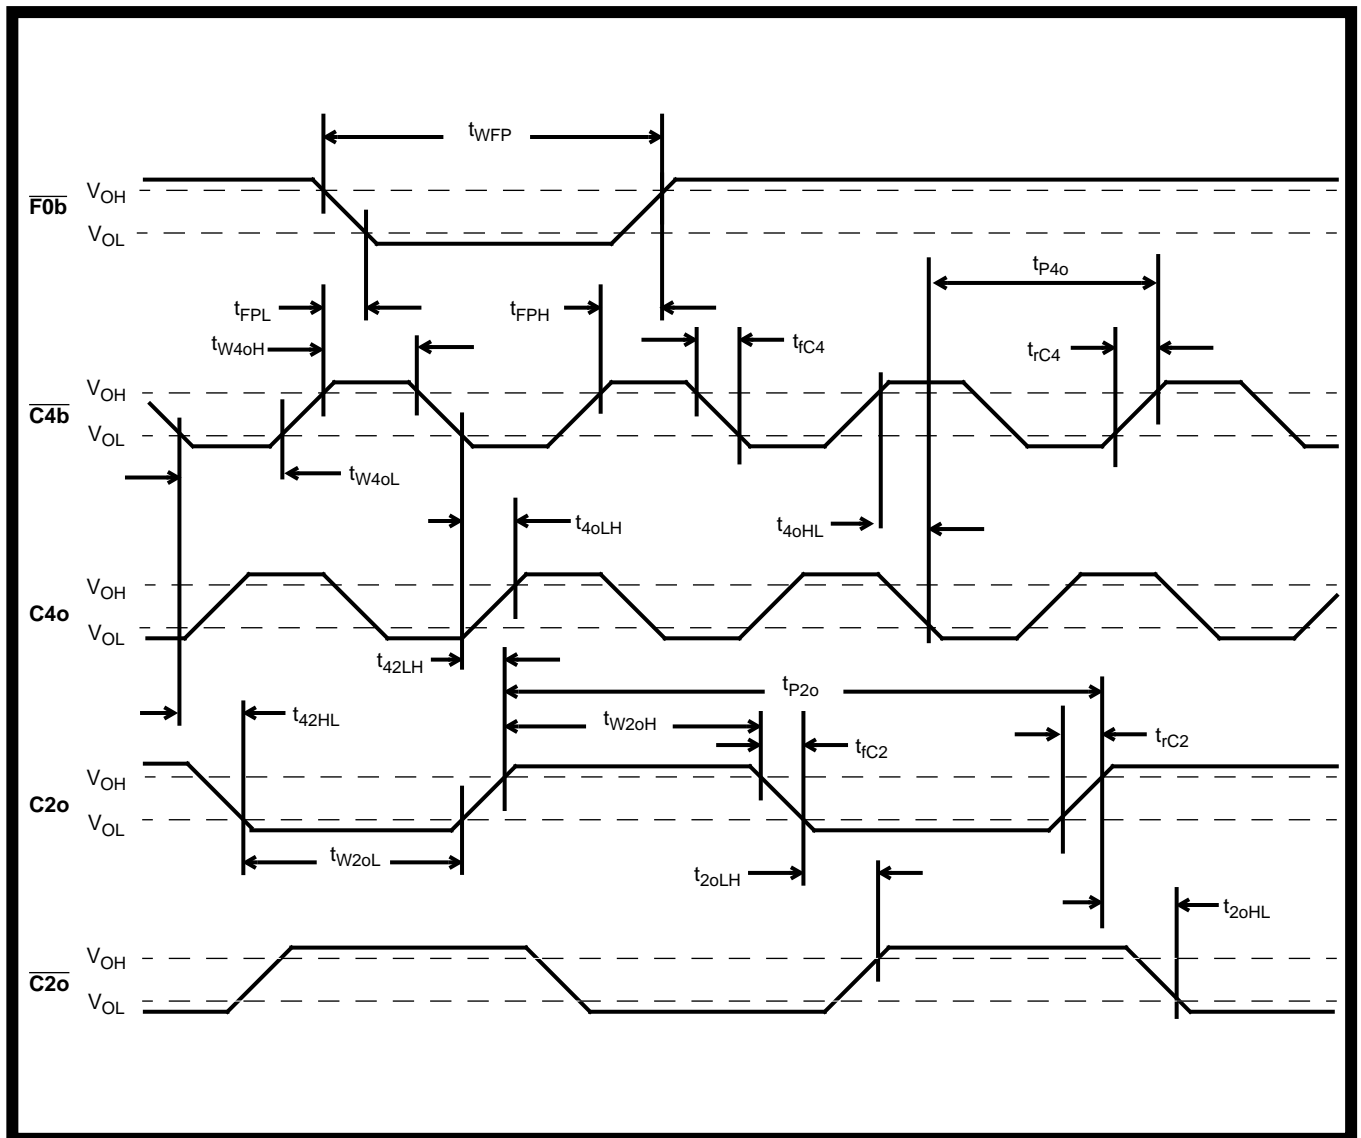

Figure 16 - Timing Information on DPLL #2 Outputs
**AC Electrical Characteristics**†-Voltages are with respect to ground ( $V_{SS}$ ) unless otherwise stated.(Refer to Figure 16)